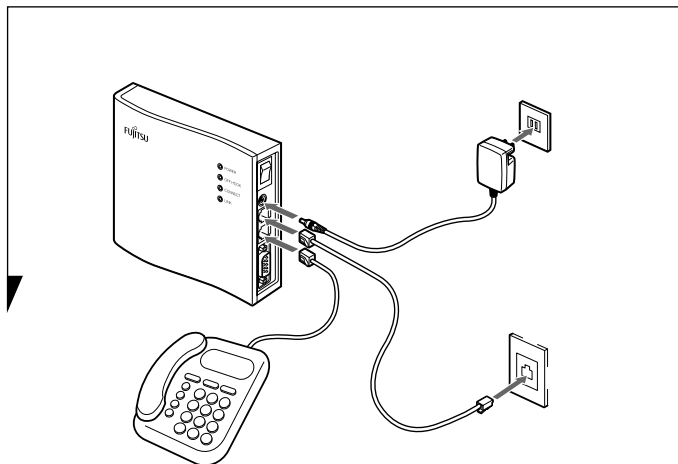

Figure 8. Connecting an Analog Line
2. Connect a telephone set, telephone line, and AC adapter (*Figure 8*).